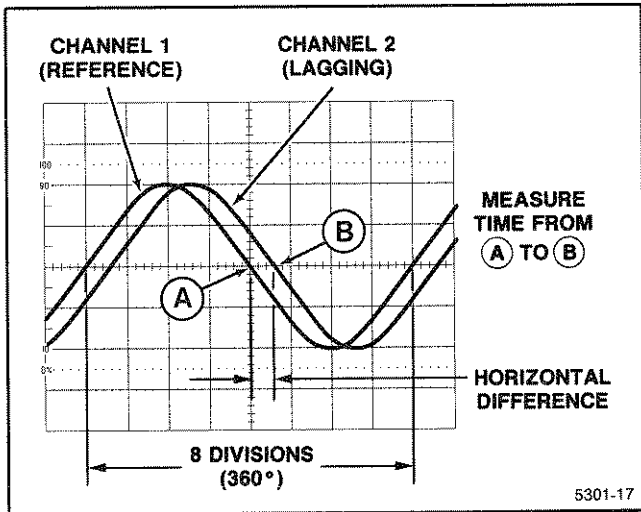
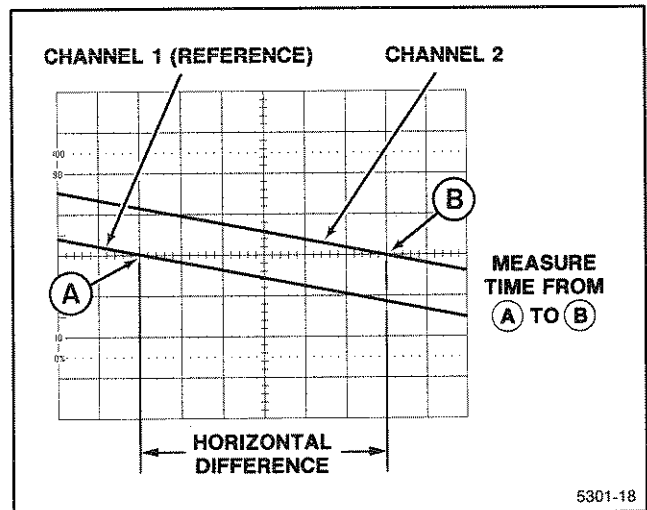

Figure 6-9. Phase difference.
Figure 6-10. High-resolution phase difference.
9. Position the displays and adjust the SEC/DIV Variable control so that one reference-signal cycle occupies exactly eight horizontal graticule divisions at the 50% rise-time points (see Figure 6-9). Each division of the graticule now represents 45° of the cycle ( $360^\circ \div 8$  divisions), and the horizontal graticule calibration can be stated as 45° per division.
**EXAMPLE:** The horizontal difference is 0.6 division with a graticule calibration of 45° per division as shown in Figure 6-9.
**EXAMPLE:** If the sweep speed were increased 10 times with the magnifier (X10 Magnifier out), the magnified horizontal graticule calibration would be 45°/division divided by 10 (or 4.5°/division). Figure 6-10 shows the same signals illustrated in Figure 6-9, but magnifying the displays results in a horizontal difference of 6 divisions between the two signals.